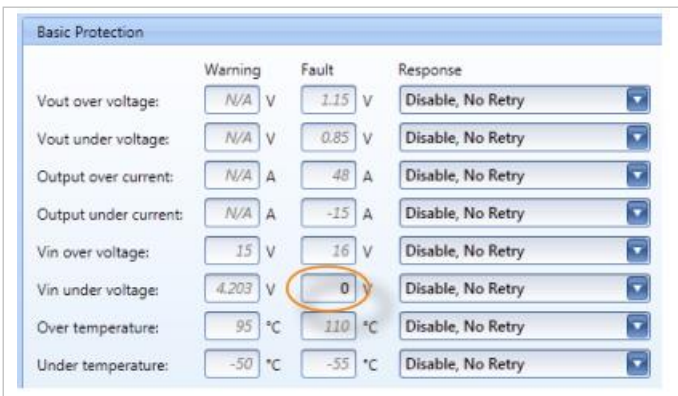

Figure 3: Protection setting for proper snapshot function
**Note:** In order for the fault capture to work properly, the fault responses must be set in latched mode, i.e. Disable, No Retry (see example in Figure 3), and the input undervoltage threshold (VIN\_UV\_FAULT\_LIMIT) must be set to 0V to avoid corruption of snapshot data in NVM when the input voltage is cycled.
To demonstrate the snapshot function, let's walk through an example with a BMR4640x02/001 to capture an overcurrent fault. For proper snapshot function we need to make sure the input undervoltage threshold is set to 0V and the fault responses are set to latched mode, Disable, No Retry, see Figure 3.